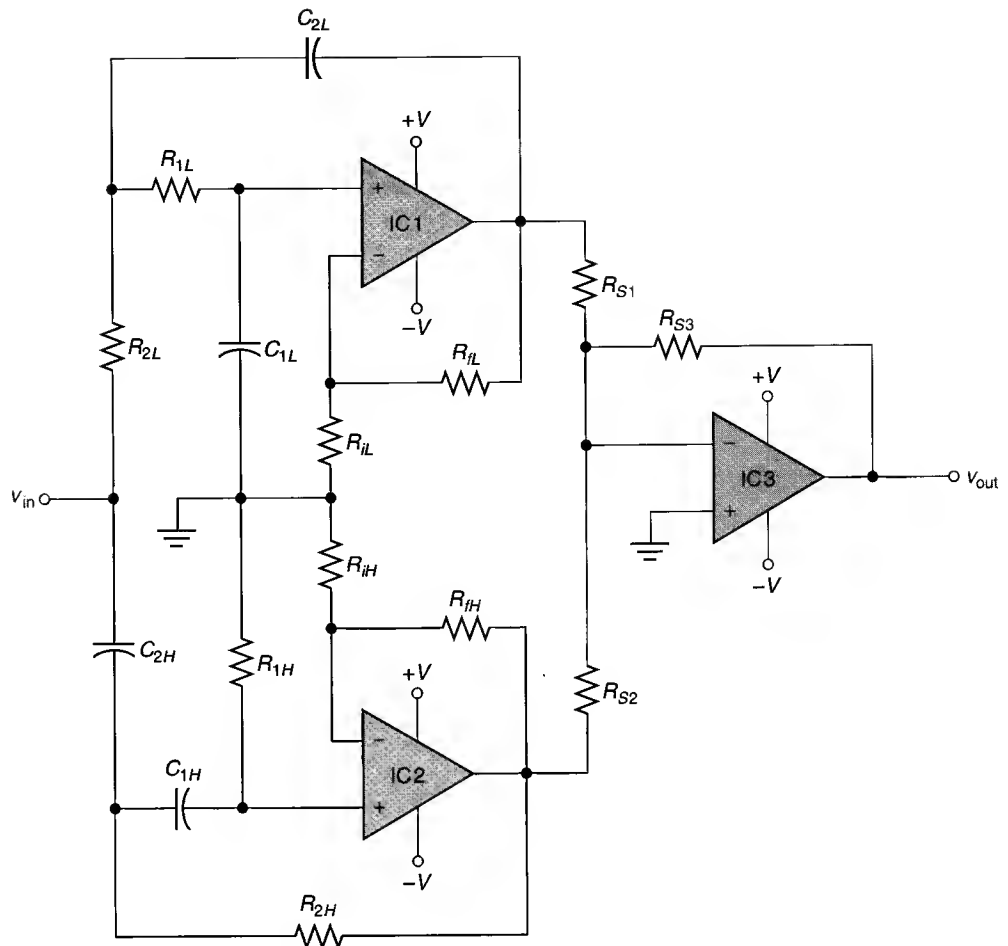

FIGURE 17.26 A multistage notch filter.
The circuit represented in Figure 17.25 is constructed as shown in Figure 17.26. While the circuit appears confusing at first, closer inspection shows that it is made up of circuits that we have already discussed. The low-pass filter consists of the op-amp labeled IC1 and all the components with the L subscript. This low-pass filter, though drawn differently than you are used to seeing, is identical to the low-pass input stage of the band-pass filter in Figure 17.20. The high-pass filter consists of the op-amp labeled IC2 and all the components with the H subscript. This circuit is identical to the high-pass output stage of the band-pass filter in Figure 17.20. Finally, the summing amplifier is made up of the op-amp labeled IC3 and all the components with the S subscript. Despite the complex appearance of the circuit, it operates exactly as described in our discussion of the notch filter block diagram.
The frequency analysis of the notch filter shown in Figure 17.26 is identical to that of the two-stage band-pass filter. First, the cutoff frequencies of the low-pass and high-pass
8. Describe the operation of the multistage notch filter in Figure 17.26.
9. How would you analyze the frequency response of a notch filter like the one in Figure 17.26?